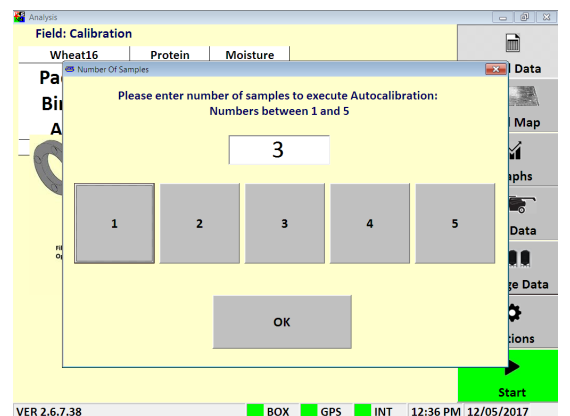

Figure 5-21. Num of samples for Auto-Calibration
- Enter the number of samples to check (1-5) Figure 5-21